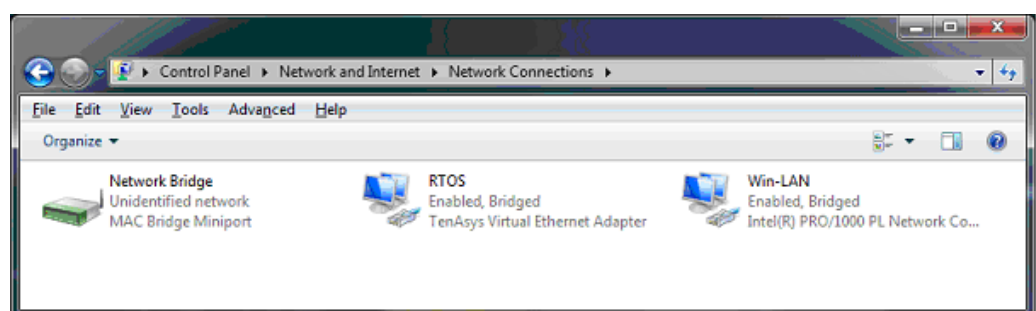

Figure 7: Windows view
The first NIC is necessary for the EtherCAT master and is assigned to the RTOS „INtime“ (X2:ETH). This NIC is not visible for Windows, see >Figure 7< on page 24.
The second NIC is assigned to the operation system Windows (X3:ETH) and is displayed as adapter „**Win-LAN XXX**“, XXX shows the chip set, of type „**Intel(R) PRO/1000 PL Network Connection**“ in >Figure 7< on page 24.